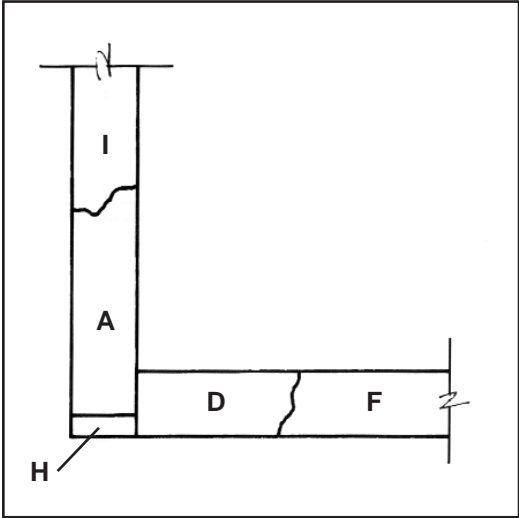

Figure 1
1. Use 1" nails and glue to attach boards H and I to boards A. Attach G to C and F to D in the same manner. Refer to Figures 1 and 2 and isometric.
4. Use 1 1/2" finish nails and glue to attach boards A to B, C, D and E. Refer to Figures 1 and 2.